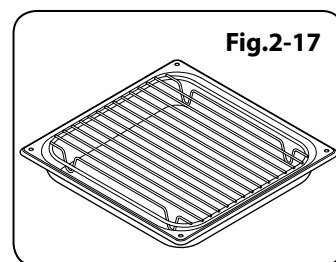

Fig.2-17
- One pastry tray (**Fig.2-17**)